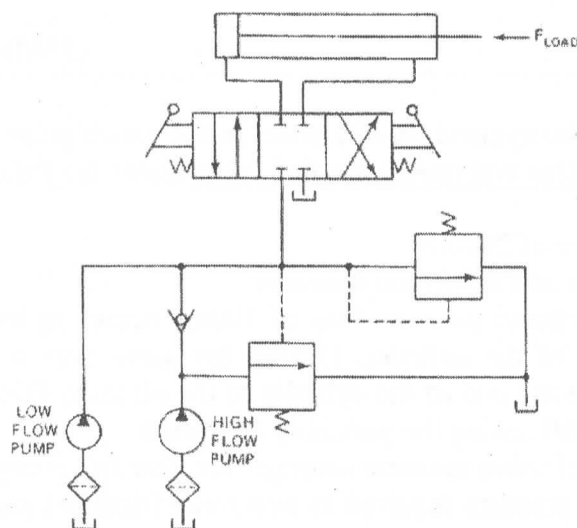

Fig. 3 Double pump circuit for question (3_1)
1. For the double pump system shown in Fig. 3 for the application of a sheet metal punch press, what should be the pressure settings of the unloading valve and pressure relief valve under the following conditions: